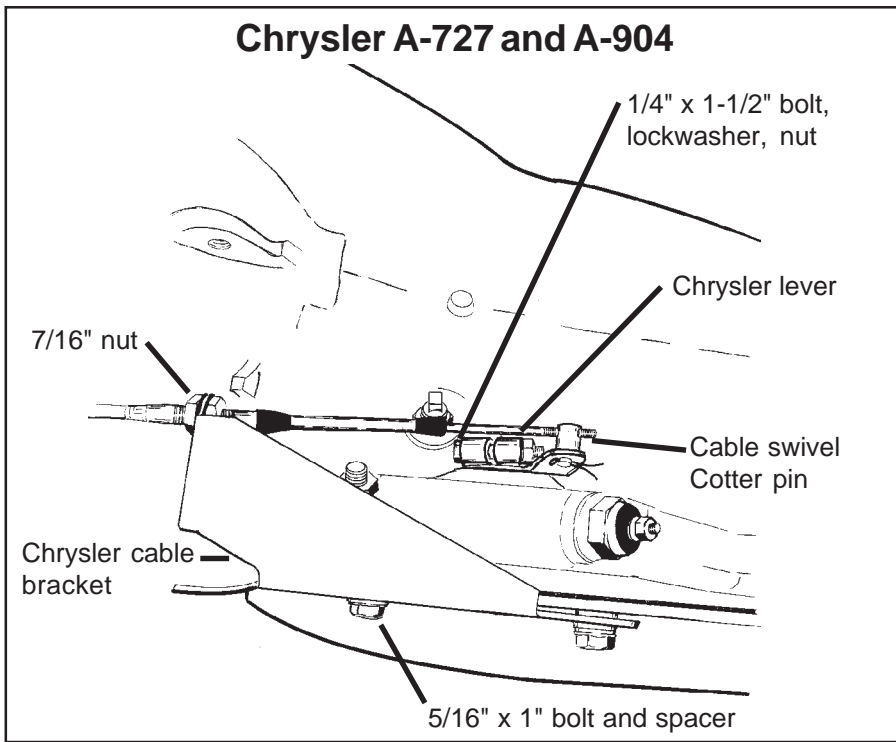

Figure 8
**STEP 21.** If you have not already done so, loosen the pinch bolt on the throttle lever on the transmission. This is the lever on the small diameter shaft. Pry the lever off with a screwdriver and allow the linkage to hang free. Remove and discard the stock shift lever and the stock shift linkage. Install the **B&M** selector lever in position and tighten the pinch bolt securely (See Figure 8). Make sure the lever is not pushed down so far as to touching the transmission case. This will cause the lever to bind on the case. The lever should travel smoothly from front to back with a positive click in each gear position. Install the stock throttle lever in position on the small diameter shaft as removed and tighten the pinch bolt securely. The throttle lever must operate smoothly.
**STEP 22.** Remove the two transmission oil pan bolts directly below the shift lever. Install the cable bracket in position with the two spacers between the pan and the bracket (See Figure 8). (If your transmission is equipped with a cast aluminum oil pan these spacers can be omitted.) Install the two 5/16-18 x 1.00" pan bolts supplied